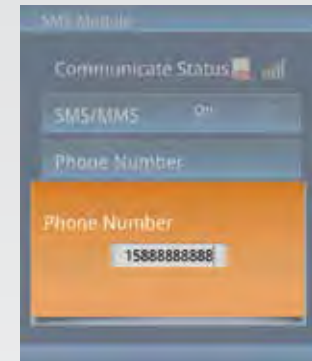

Fig 7.06-2
- g) In the Mobile ID# menu, enter any valid mobile number up to 13 digits long. Use the ◀ key to backspace if necessary. (Fig 7.06-2)